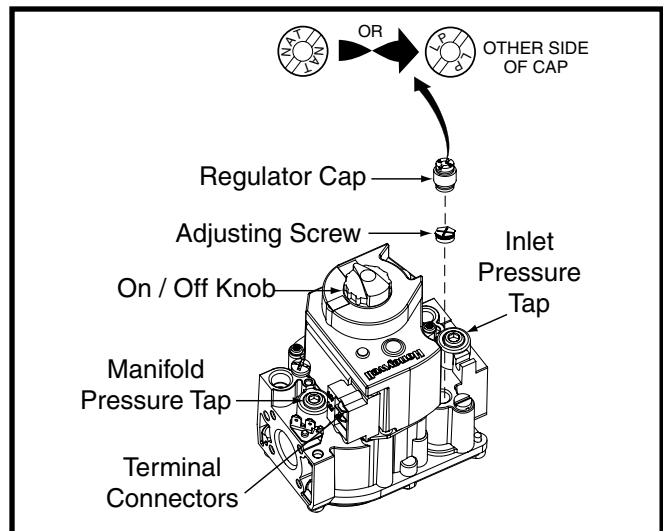

Figure 18. Gas Valve
Converting single stage valves to LP/Propane requires the replacement of the burner orifices and flipping the regulator cap to the side marked LP. The end facing up should now read LP. See Figure 18.
5. Turn the gas valve ON/OFF knob to the OFF position. See Figure 18.
2. Using a 3/16" Allen wrench, remove the plug from the inlet pressure tap (INLET side of gas valve). See Figure 18 (page 19).
4. Turn the gas valve ON/OFF knob to the ON position. See Figure 18 (page 19).
3. Using a 3/16" Allen wrench, remove the manifold pressure tap plug located on the outlet side of the gas valve. See Figure 18 (page 19).
1. Single stage gas valve: Remove the regulator cap from the top of the gas valve. See Figure 18 (page 19).